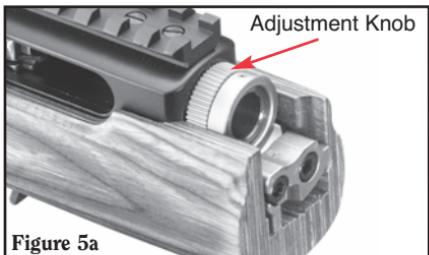

Figure 5a
2. Loosen the adjustment knob by turning it **clockwise** as far as possible with finger pressure. (See Figures 5a & 5b.)